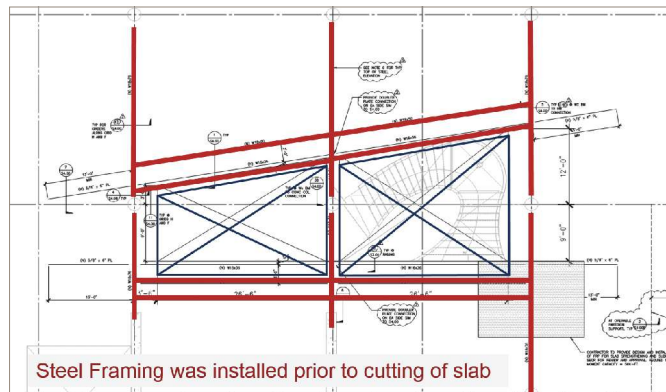

Fig. 3: Revised opening proposed by engineer
4. Structural steel framing was installed below the slab free-edge and anchored into the columns using steel collars prior to the removal of any concrete (Fig. 3).